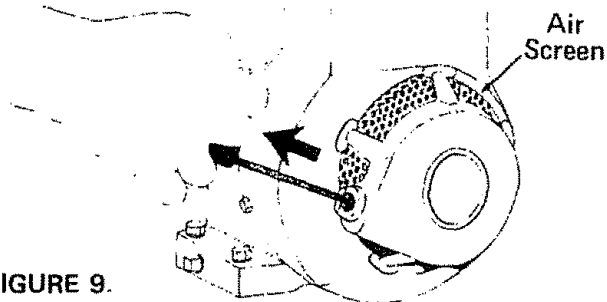

FIGURE 9.
3. Grasp starter handle (see figure 9) and pull rope out slowly until engine reaches start of compression cycle (rope will pull slightly harder at this point). Let the rope rewind slowly.